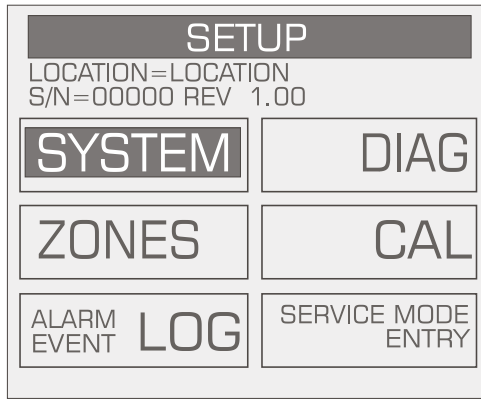

Figure 6. Main Setup Screen Showing Location of Service Mode Entry Option
- c. Scroll to the bottom right of the screen (see Figure 6) to select the 'Service Mode Entry' option.